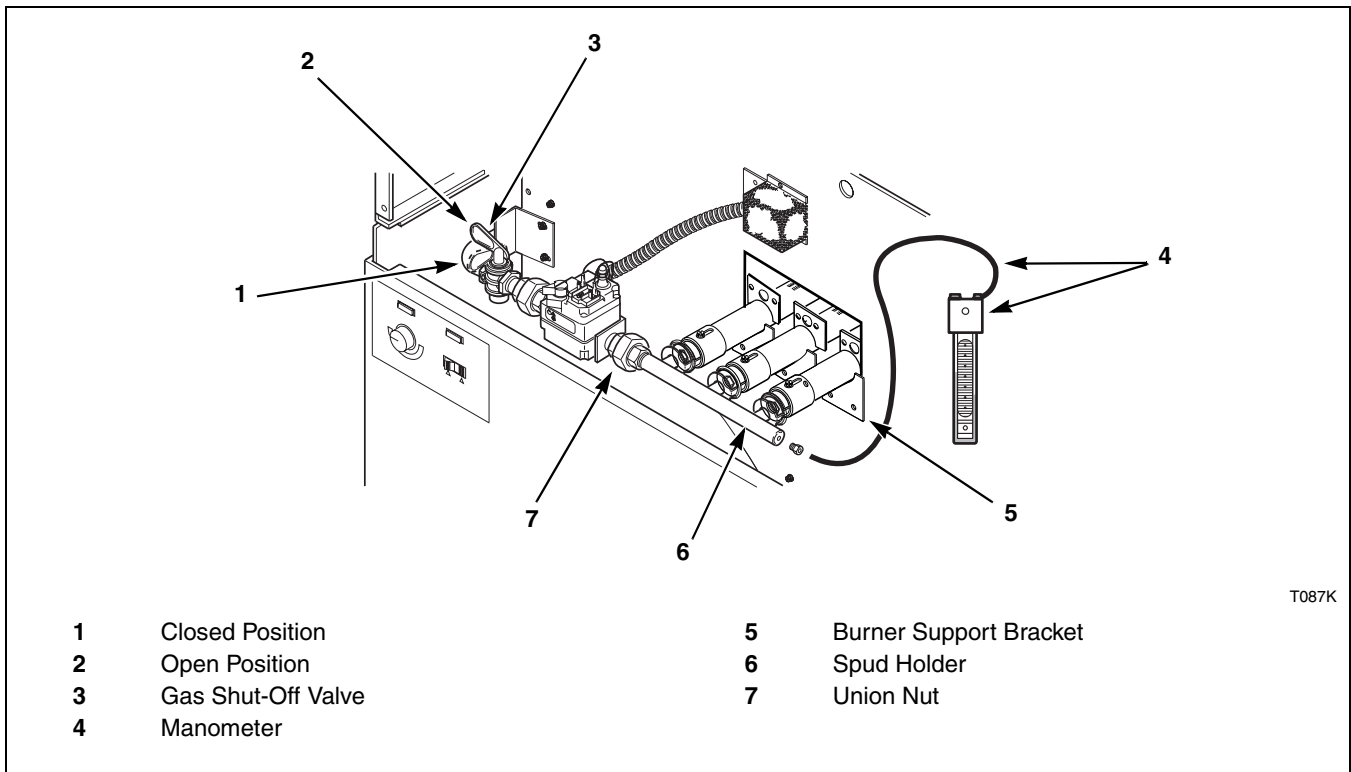

Figure 15
2. Turn gas shut-off valve to open position (handle should be parallel with the gas line). Refer to *Figure 15*.